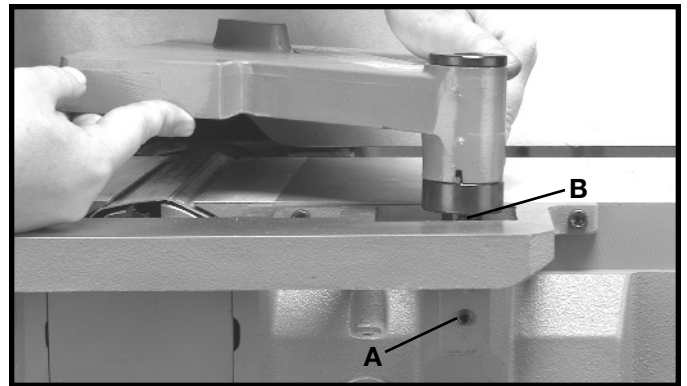

Fig. 16
Loosen set screw (A) Fig. 16. Insert post (B) of the cutterhead guard into hole in infeed table and tighten set screw (A) against the flat on post (B).